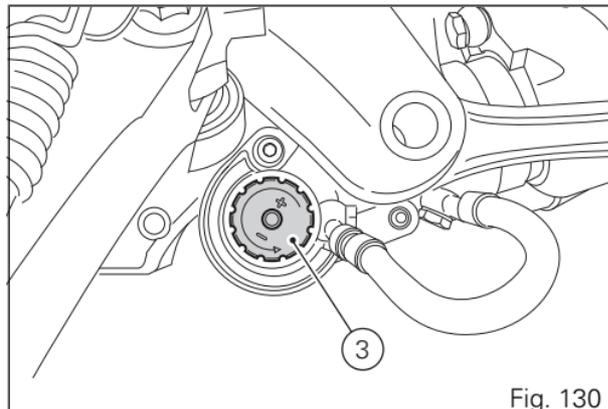

Fig. 130
The knob (3, Fig. 130), located on the expansion reservoir of the shock absorber adjusts the damping during the compression phase. Turning the adjusters (1) or the knobs (2) and (3) clockwise to increase preload or damping; they decrease turning them in the opposite direction.